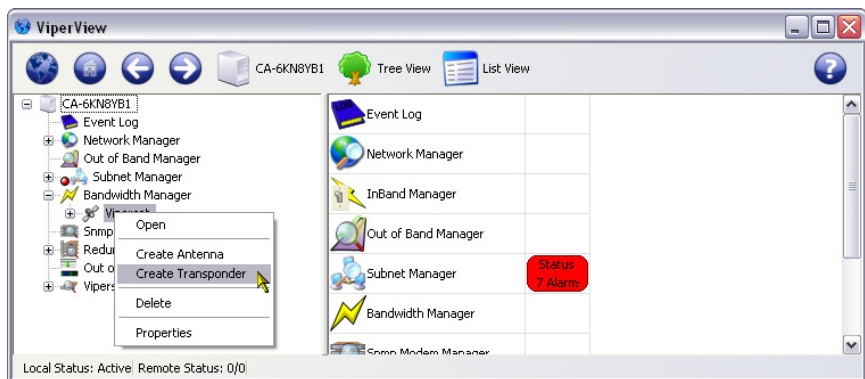

Figure 3-14 Create Transponder menu command
1. Right-click on the satellite icon and select **Create Transponder** from the drop-down menu (figure 3-14).